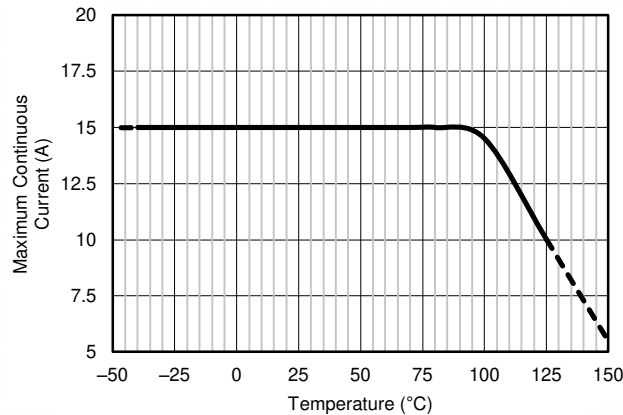

Figure 7-1. Maximum Current vs Temperature
(3) The supply voltage range maximum is 36 V, but the reference voltage cannot be higher than 18 V.
(4) See Figure 7-1 and the *Layout* section for additional information on the current derating and layout recommendations to improve the current handling capability of the device at higher temperatures.
(5) See the *Section 7.3.1* section for additional information regarding the integrated current-sensing resistor.
(6) System gain error includes amplifier gain error and the integrated sense resistor tolerance. System gain error does not include the stress related characteristics of the integrated sense resistor. These characteristics are described in the *Shunt Resistor* section of the *Electrical Characteristics* table.
(7) The internal shunt resistor is intended to be used with the internal amplifier and is not intended to be used as a stand-alone resistor. See the *Integrated Shunt Resistor* section for more information.
External factors (such as ambient temperature, external air flow, and PCB layout) can contribute to how effectively the heat developed as a result of the current flowing through the total package resistance can be removed from within the device. Under the conditions of no air flow, a maximum ambient temperature of 85°C, and 1-oz. copper input power planes, the INA250 can accommodate continuous current levels up to 15 A. As shown in Figure 7-1, the current handling capability is derated at temperatures above the 85°C level with safe operation up to 10 A at a 125°C ambient temperature. With air flow and larger 2-oz. copper input power planes, the INA250 can safely accommodate continuous current levels up to 15 A over the entire –40°C to 125°C temperature range.